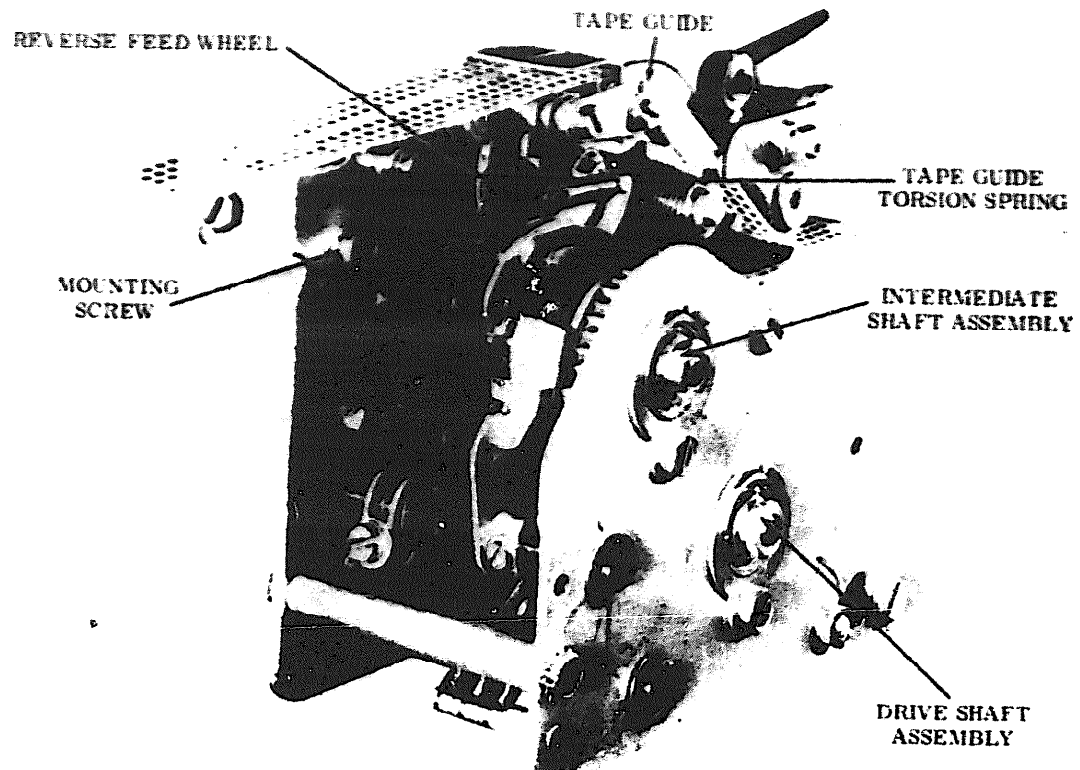

Figure 9 - Punch Backup Mechanism, Left Front Oblique
PUNCH BACKUP MECHANISM (Figure 9)
- 3.07 To remove the tape guide assembly (Figures 9 and 10):
To remove the backup mechanism from the main casting (Figures 9 and 11):